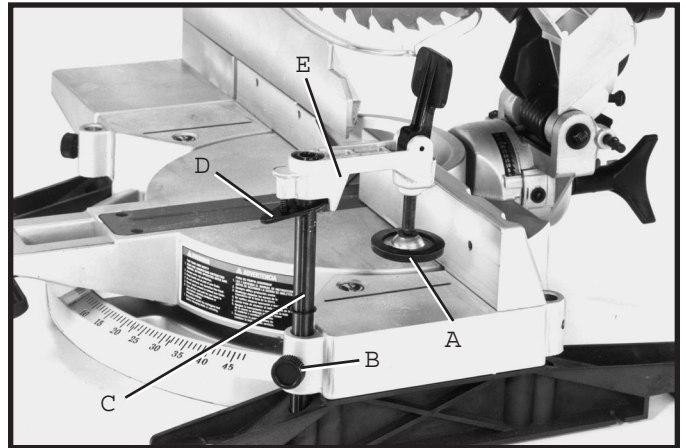

Fig. 24
1. The height of the work clamp (A) Fig. 24, can be adjusted by loosening lock knob (B) and moving post (C) up or down, or depressing lock lever (D) and sliding clamp body (E) up or down. After height of clamp (A) is adjusted, tighten lock knob (B) and/or release lock lever (D).